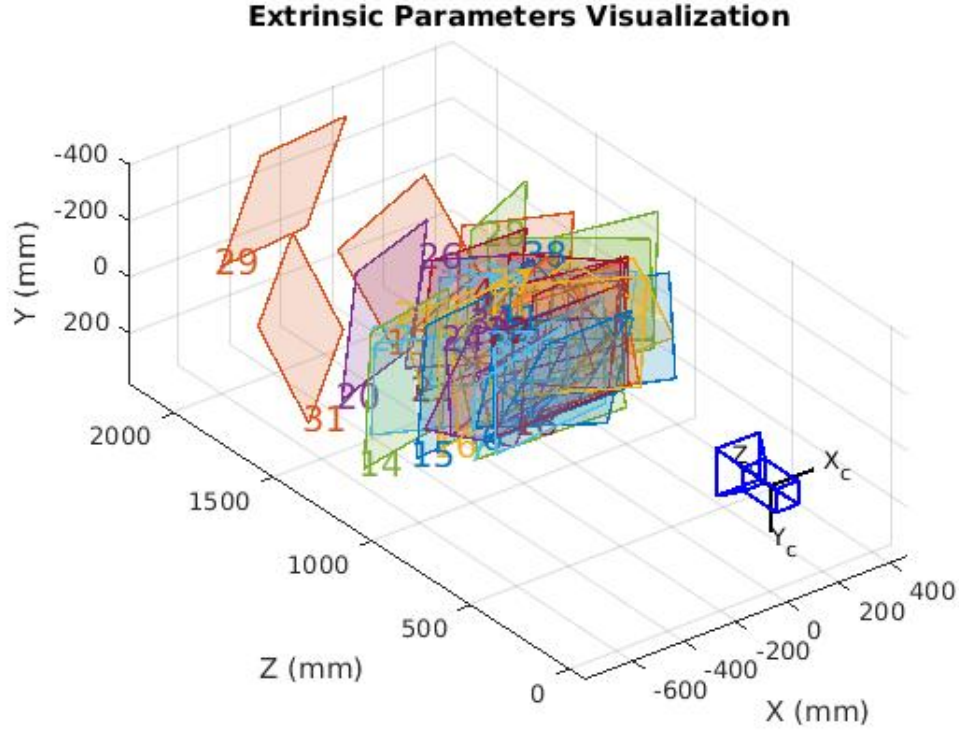

Figure 4: Extrinsic Parameters Visualization
- The calibration also allow to find the exact location of the pattern for each camera (shown at figure 4. It is important to notice that might be a good idea to skip some of the image in order to have an smaller error.